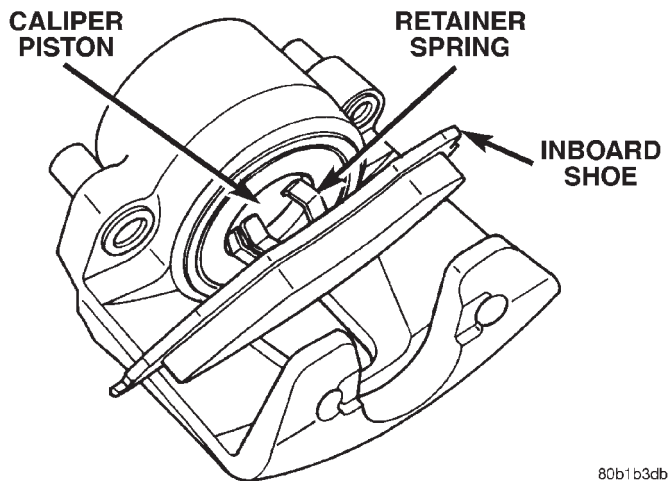

Fig. 22 Inboard Brake Shoe
(9) Remove inboard shoe by tilting shoe outward until retainer spring is clear of caliper piston (Fig. 22).